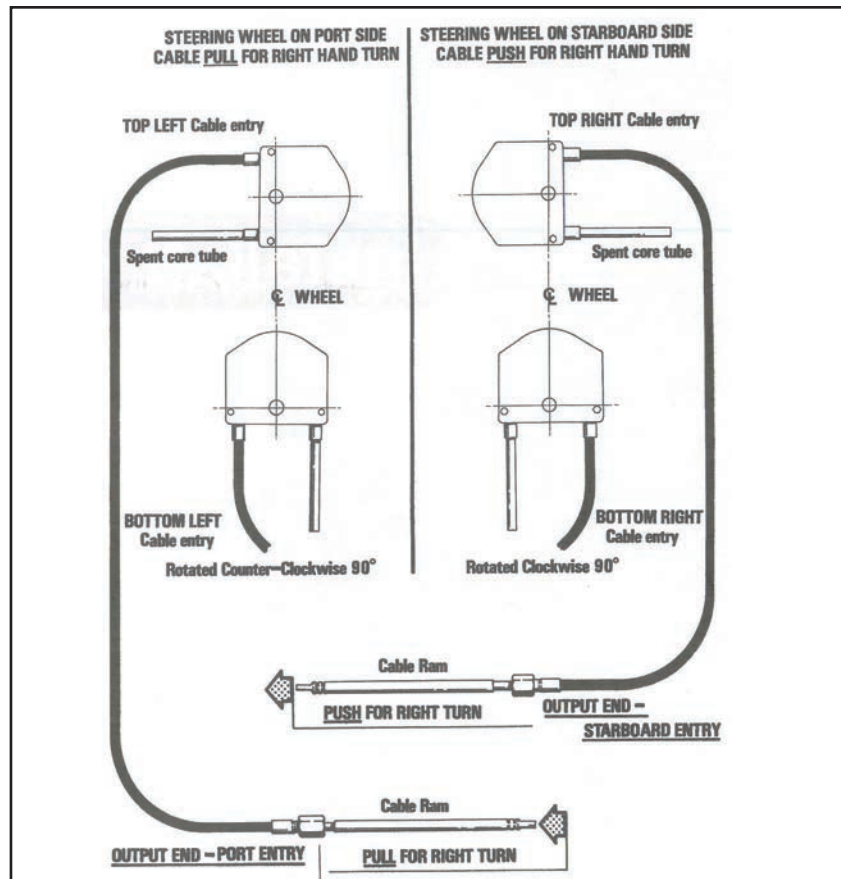

Figure 4.
STEP 4. The Helm Assembly can be rotated on the Mounting Bracket to accommodate Cable entry. The best position for the Drive Unit is where the Cable can be installed with the minimum amount of bending. Figure 4 shows the Cable End positions for either PUSH or PULL for right turn operation. The Drive Assembly is adjustable in 45 degree increments from the top right or top left cable entry positions.